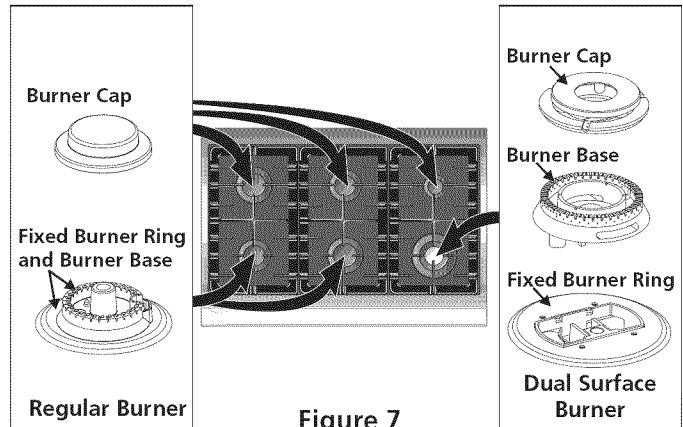

Figure 7
This range is equipped with sealed burners as shown (Figure 7). All pieces are at their place. Take note where they are. **Remove all packaging material located under the Dual Surface burner head.** Make sure the burner is properly aligned and leveled. **NOTE:** There are no burner adjustments necessary on this range.
4. Adjust the "LOW" Setting of Regular Burner (see figure 7) on the Surface Burner Valves (Figure 8):
5. Adjust the "LOW" Setting of the Dual Burner (see Figure 7) on the Surface Burner Valve (Figure 9):